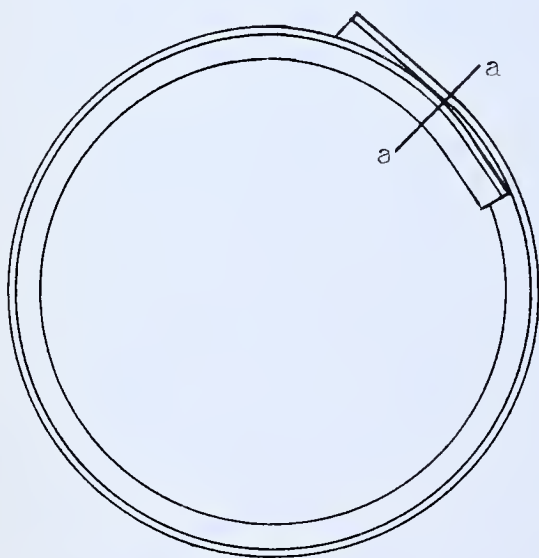
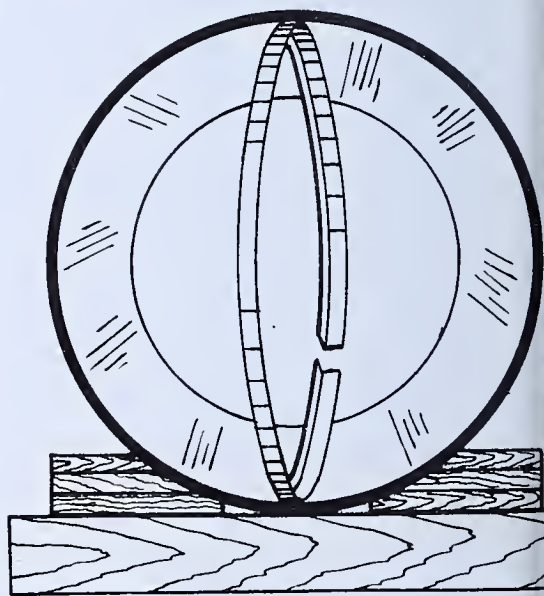

FIG. 380 — *Angle Ring in Process
FIG. 381 — *Pushing the First
An angle ring in process of being cut to size is shown in Fig. 380. The steel angle is formed to the correct diameter. The ends are left long enough to trim off the straight ends that are not formed. After the ring is formed, it is laid on a
flat surface, expanded to the correct diameter, and marked to be cut as shown by the line *a-a* in Fig. 380. This is the correct method to use for a quick, accurate job. The ring is then pushed into the cylinder as shown in Fig. 381. The first ring is always pushed into the location farthest away from the open end to allow subsequent rings to be placed.
1. Expand the angle ring to the correct diameter, and cut the ends as shown in Fig. 380.
2. Push the ring into the shell as shown in Fig. 381.